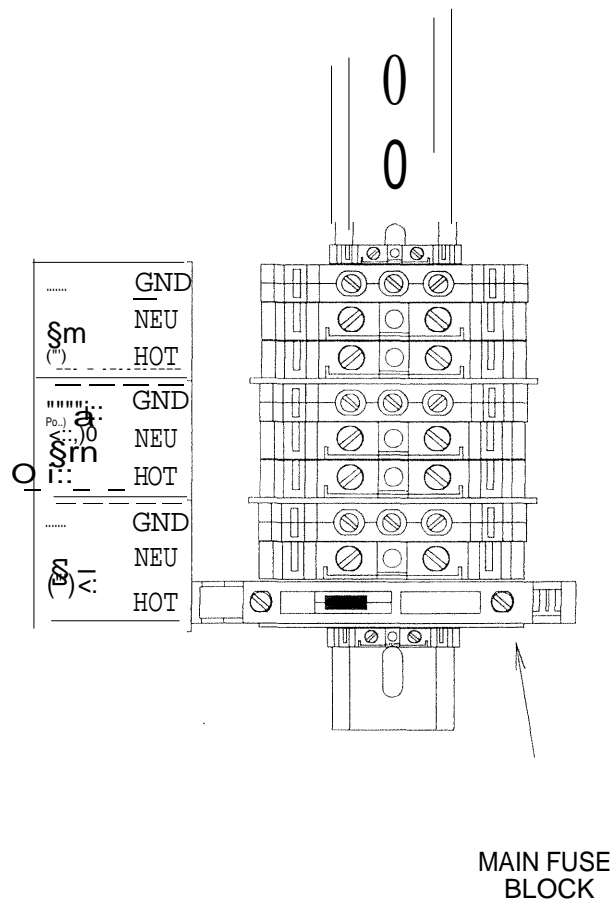

Figure 2-1 AC power distribution fuse and terminal blocks
The same AC voltage readings can also be measured at JP9 located on the MPB. Refer to figure 2-1 and identify the pins labeled L1, L2, and GND next to JP9.
When AC power is applied to the FCT, The DC supply voltages can be measured using a hand-held multimeter. Identify JP11 labeled "*BATTERY I CHARGER*", which is a 4 pin connector located on the same edge of the MPB that JP9 (AC input) is located. The white silk screen next to JP11 identifies each of the 4 pins as shown in figure 2-1.
- 1) Disconnect AC power to the FCT by opening the MAIN FUSE BLOCK (see Figure 2-1).